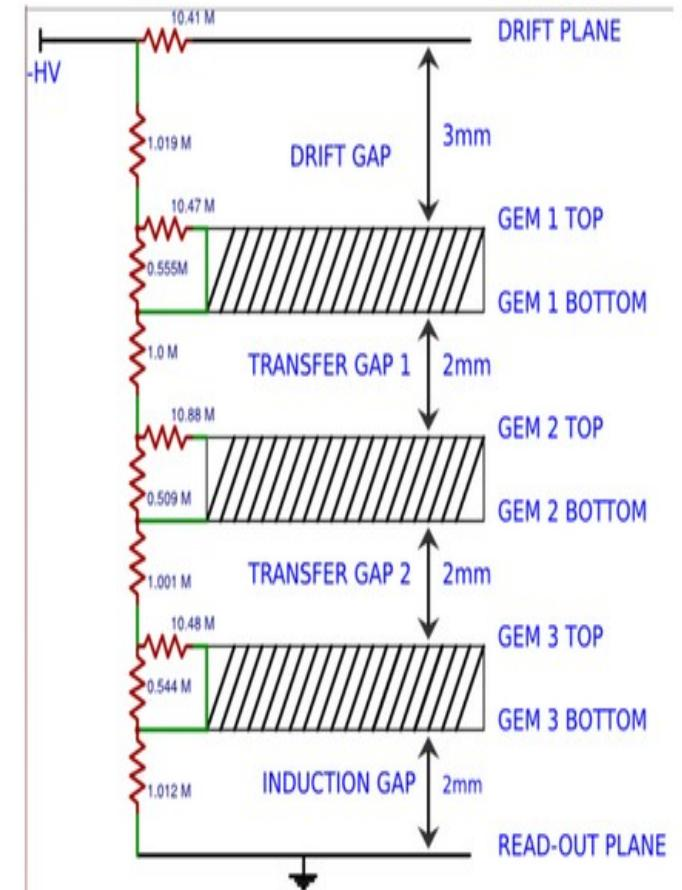

Fig.3.Triple GEM detector with the voltage divider circuit
- Fig. 3 shows the voltage divider circuit used to distribute the appropriate voltages to all electrodes.